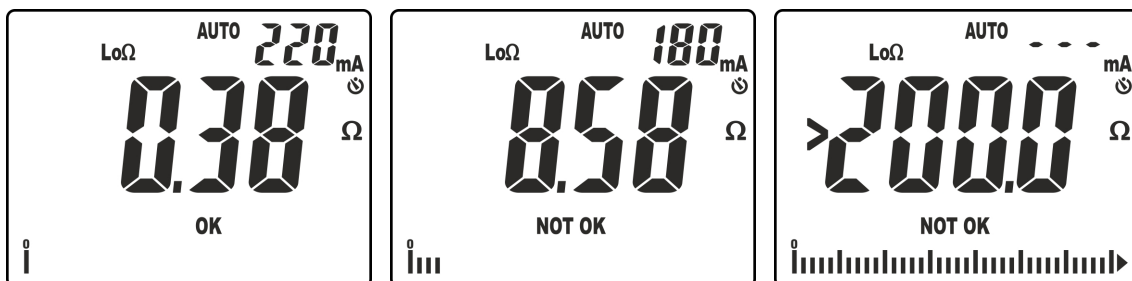

Fig. 28: Results of continuity test in AUTO mode
10. In the screen in Fig. 28 – left side, a positive test result "OK" is shown (value lower than the set threshold and test current >200mA). In the screen in Fig. 28 – middle, a negative test result "NOT OK" is shown (value higher than the set threshold and test current <200mA). In the screen in Fig. 28 – right side, a negative test result "NOT OK" is shown, corresponding to the out-of-range condition (symbol ">200.0").